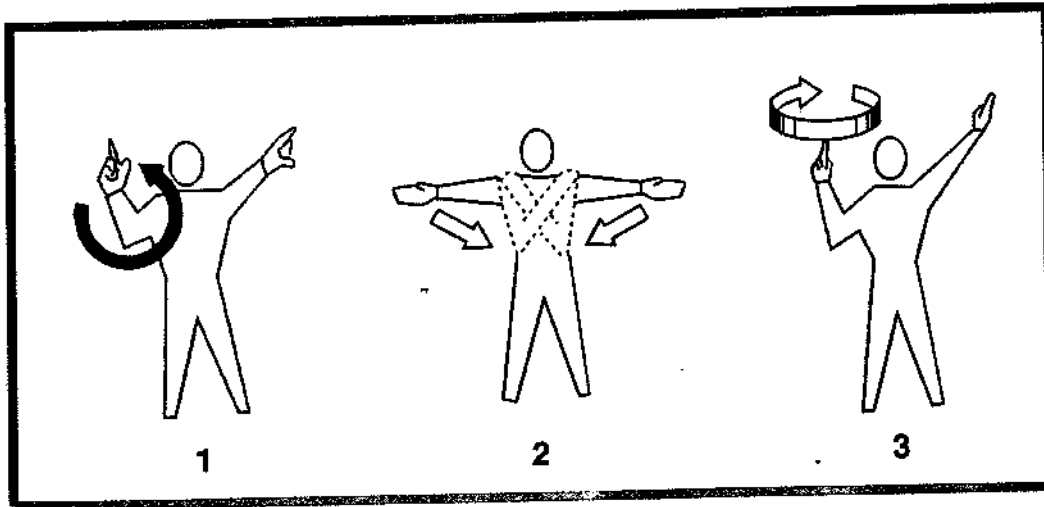

Fig. 9.25. Marshalling Signals.
7. (Refer to fig. 9.25) identify the signal to engage rotor on a rotorcraft